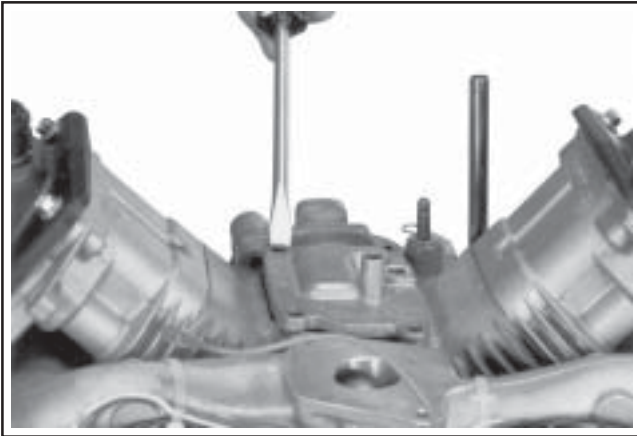

Figure 9-41. Breaking Breather Cover Seal.
4. Pry under the protruding edge of the breather cover with a screwdriver to break the RTV or gasket seal. See Figure 9-41. Do not pry on the sealing surfaces as it could cause damage resulting in leaks. Most engines use a formed gasket rather than RTV sealant.